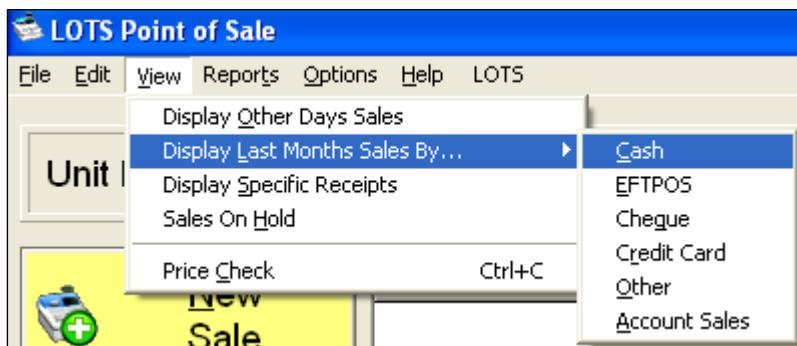

Figure 124
1. From the 'LOTS Point of Sale' screen select the **View** drop down menu → **Display Last Months Sales By...** (as shown in Figure 124).